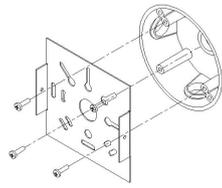

FIG. 2
Step2: Fix the base plate onto the junction box (FIG.2)